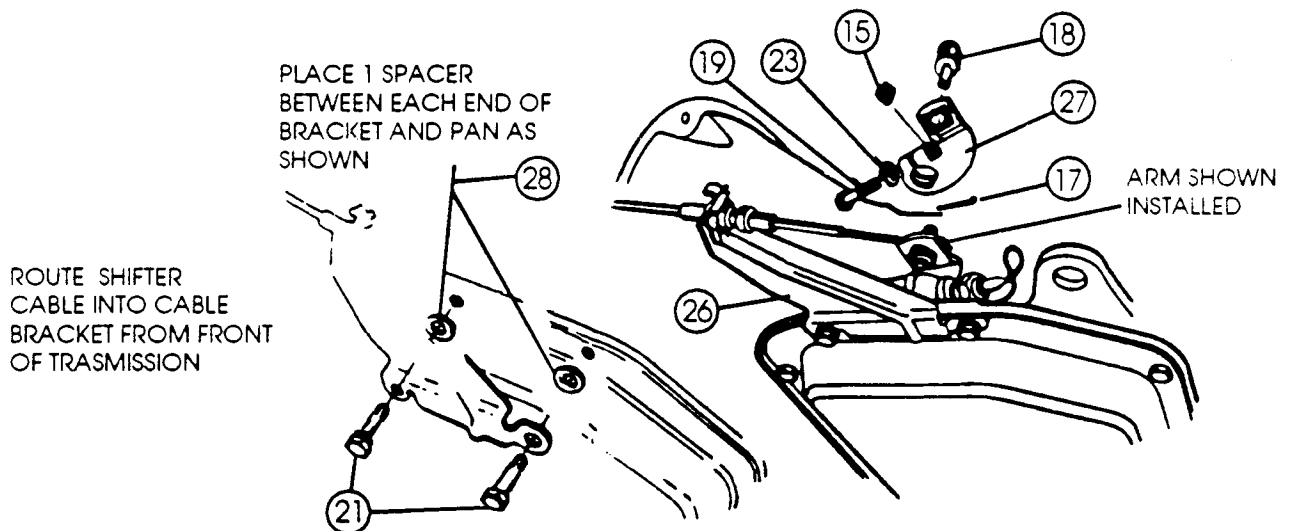

FIG. 6
2. Remove linkage and lever that is connected to the downshift lever shaft. Shift linkage rods should be disconnected and discarded. The original equipment neutral safety and back-up light switch that are found on some Ford transmissions should be disconnected and discarded. (Refer to Figure 6).
Thread cable pivot (Item #18) onto end of shifter cable. Adjust cable pivot until it slides freely into hole in transmission arm. When properly adjusted, lock cable pivot in place using 3/16" hex nut. Insert cable pivot end into transmission arm so pivot end is facing outward away from transmission. (Refer to Figure 6 & 7). Temporarily install cotter pin (Item #17).